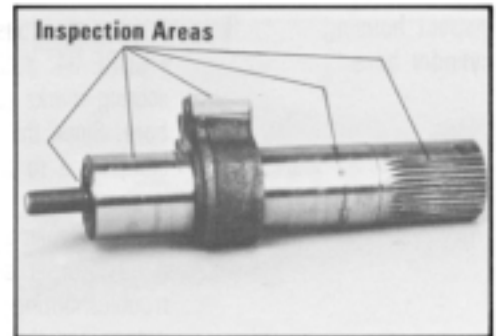

Figure 98
9. Inspect the sector shaft (51) bearing and sealing areas and sector teeth contact surfaces for brinelling or spalling. SEE FIGURE 98. Run your fingernail edge across these areas to detect steps. Inspect also for cracks. Remove any masking tape from the shaft serrations and inspect for twisted or otherwise damaged serrations. If any of these conditions exist, replace the sector shaft.